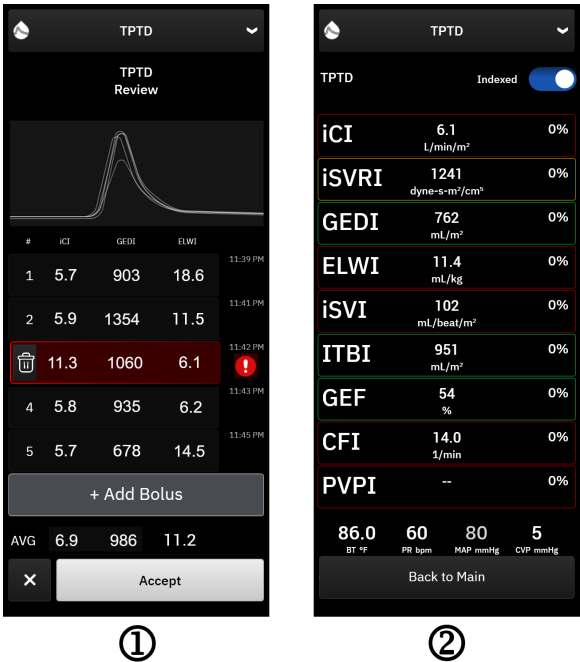

Figure 13-19: Review TPTD set and view results
14. Touch the **Accept** button when you are done reviewing to use the average value as the TPTD algorithm CO calibration and to view the TPTD values. See Figure 13-19 on page 341.